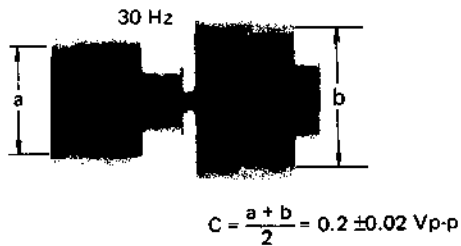

Fig. 5-32 NTSC recording color level
2. Measure the average of CH-1 output "a" and CH-2 output "b". See Fig. 5-32. Make a note of this as level "a".